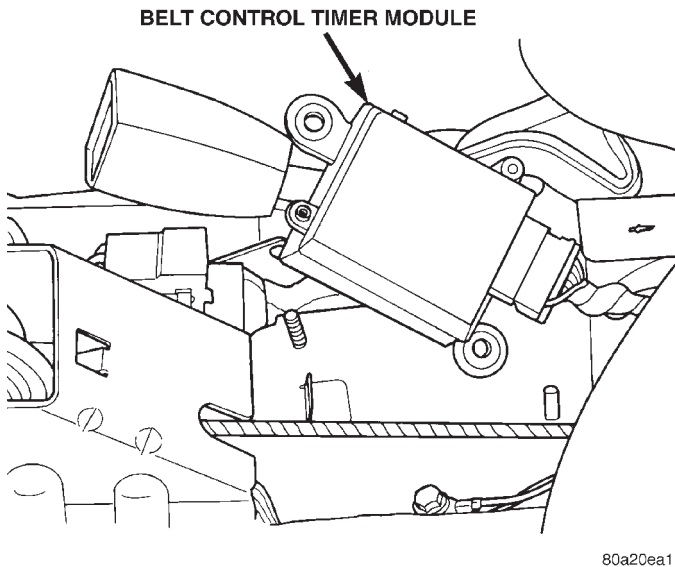

Fig. 9
- (10) Remove battery power before removing the wire harness connector from the module and remove module (Fig. 9).